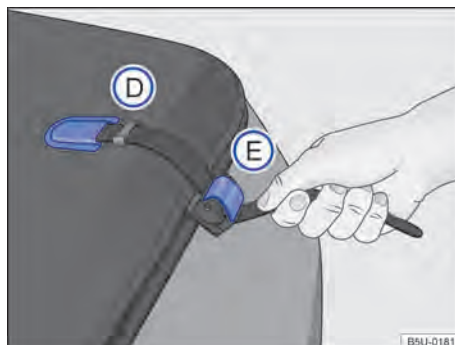

Fig. 49 Bed canvas attachment.
- Remove the belt end from the housing → Fig. 49 ⓓ, on the sides of the bed cover, and force the belt downwards to unlock the lock ⓔ.